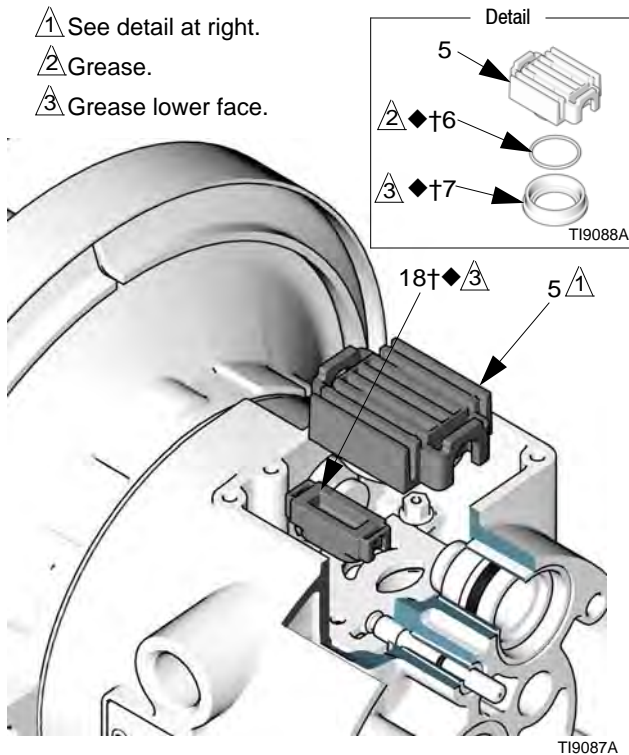

FIG. 6
3. Move the valve carriage (5) to the center position and pull it out of the cavity. Remove the valve block (7) and o-ring (6) from the carriage. Using a needle-nose pliers, pull the pilot block (18) straight up and out of the cavity. See FIG. 6.
7. Grease the lower face of the pilot block (18†◆) and install so its tabs snap into the grooves on the ends of the pilot pins (16). See FIG. 6.
8. Grease the o-ring (6†◆) and install it in the valve block (7†◆). Push the block onto the valve carriage (5). Grease the lower face of the valve block. See FIG. 6.
9. Install the valve carriage (5) so its tabs slip into the grooves on the narrow end of the actuator pistons (11). See FIG. 6.